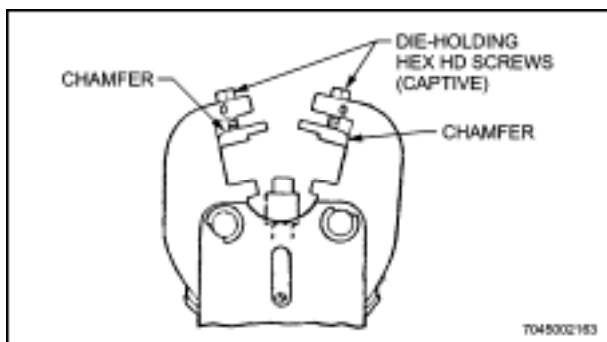

Figure 12-57 Orientation of Die Chambers
- Position each die of the die set on its respective tool jaw, orienting chamfer on die as shown in Figure 12-57. Die chamfers positioned improperly will result in an unacceptable termination.